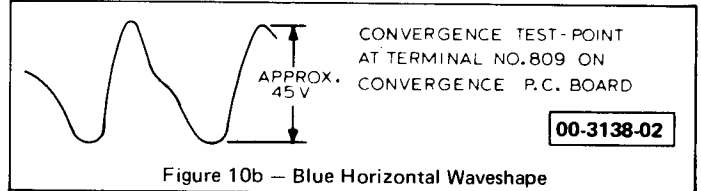

Figure 10b — Blue Horizontal Waveshape
11. BLUE HORIZONTAL SHAPING COIL (see figure 10b)